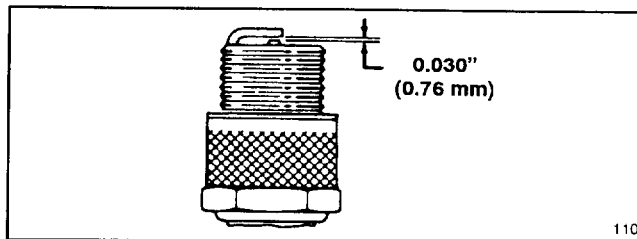

Figure 17
3. Set air gap at 0.030" (0.76 mm) (Fig. 17). Install correctly gapped spark plug and gasket seal. Tighten plug firmly to 14 ft-lb (19 N-m).